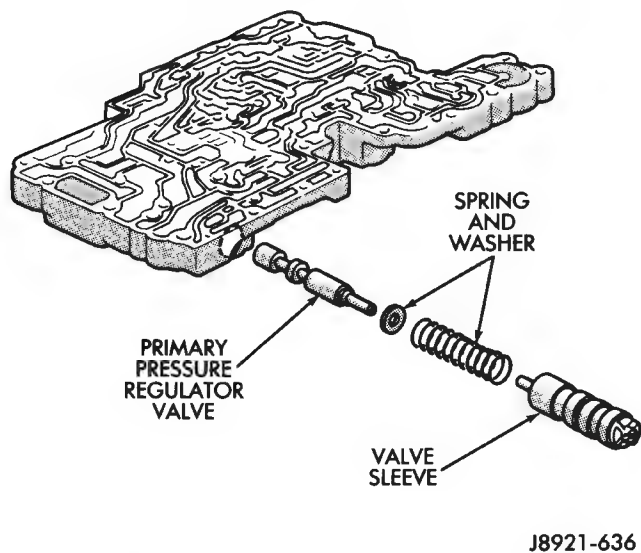

Fig. 6 Removing/Installing Primary Pressure Regulator Valve
- (b) Slowly release thumb pressure on sleeve and remove sleeve, spring and washer and valve (Fig. 6). Use magnet to remove valve if necessary.